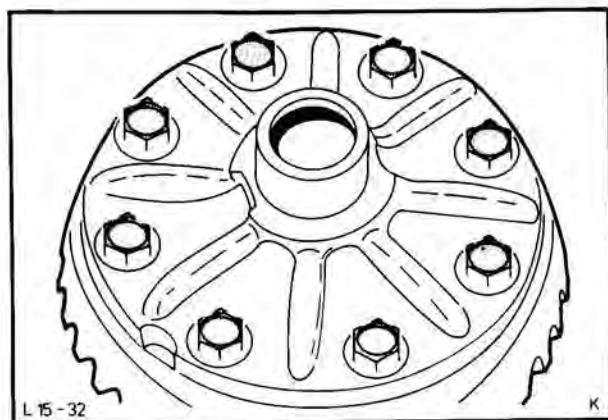

Fig. 61. Crown wheel mounting on differential housing
8. Detach crown wheel from differential housing (8 bolts), Fig. 61. To do this, slacken 3 bolts spaced around the periphery (remove the others completely) so that crown wheel can be removed by tapping bolt heads.